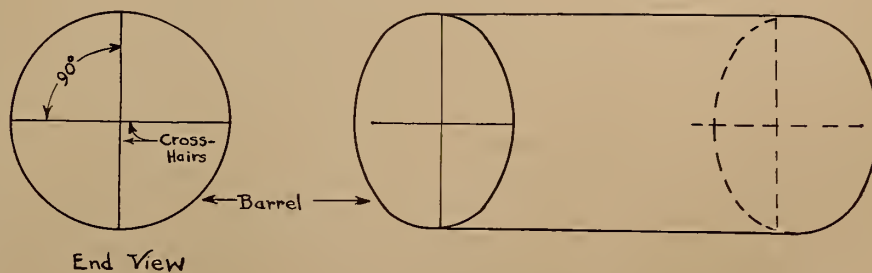

FIGURE 1
**L**AMPHOUSE alignment, it done properly, requires a very accurate system. To align the optical axis of a horizontal arc with that of the projection lens I use the principle of the surveyor's telescope. The gadget used is a brass cylinder with cross-hairs in each end (Fig. 1). To use, it is clamped in the lens holder of the projector, and by sighting through the front end the center of the positive carbon is brought into alignment with the centers of both cross-hairs simultaneously. When this is done the lamp is in perfect line both horizontally and vertically with the lens.